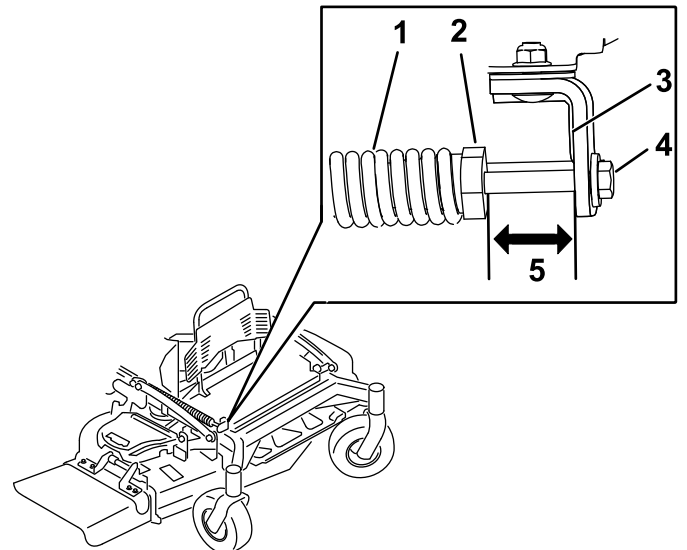

Figure 85
2. Check the distance between the spring nut and the rear side of the welded mount bracket (Figure 85).
3. Ensure that the length is between 47 to 50 mm (1.8 to 2 inches) as shown in Figure 85.
4. If needed, adjust the distance by adjusting the bolt on the front of the mount bracket (Figure 85).